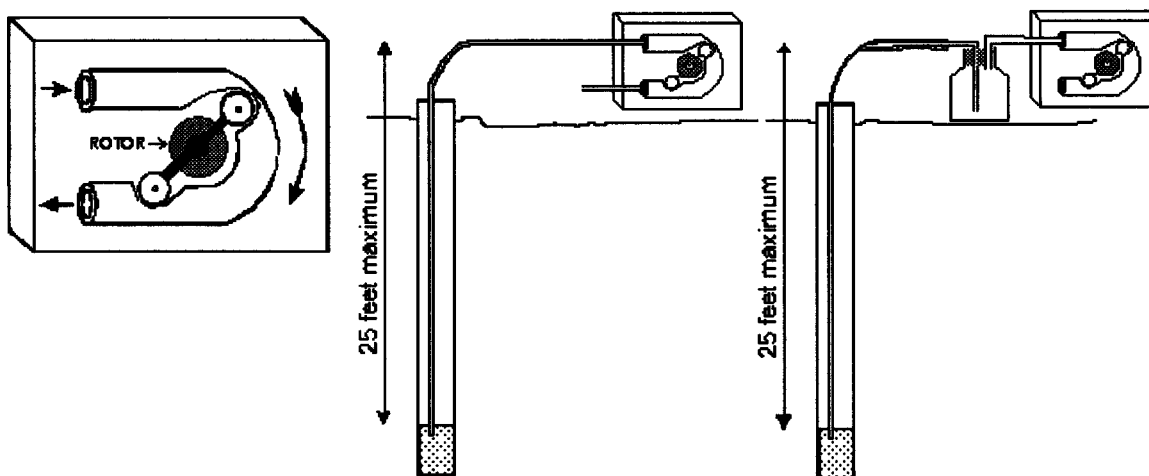

FIG. 10 Peristaltic Pump (Suction Transfer Through Tubing)
of the peristaltic pump. A second piece of PTFE or other suitable tubing is connected to the discharge end of the pump flexible tubing to allow the water to be containerized, sampled, etc. (see Fig. 10). If the flexible tubing is not compatible with the sample parameters of concern, a modification to the system is necessary.
6.10.1.2 The modification (see Fig. 10) consists of a peristaltic pump using PTFE tubing and a PTFE insert to collect samples without the sample coming into contact with the flexible tubing. The PTFE insert is placed into the opening of a clean container. The PTFE tubing connects the container to the pump and sample source. As the peristaltic pump rotor compresses the flexible tubing, causing a vacuum in the inlet tubing, the liquid is drawn up the inlet tubing and into the container without coming into contact with the pump tubing.